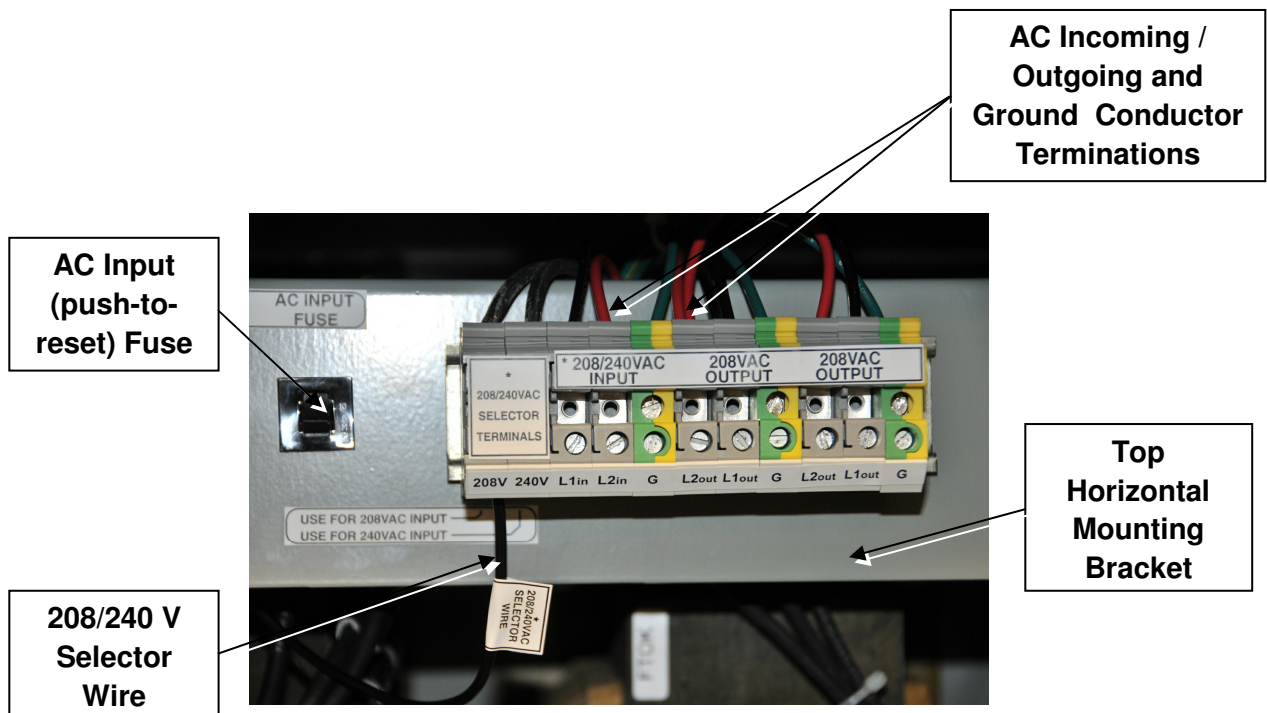

Figure 16: Incoming & Outgoing Wire Terminations
4.16 Terminate the incoming wires on the terminals marked as shown in Figure 16 and as follows:
4.18 Terminate the outgoing wires on the terminals marked as shown in Figure 16 and as follows: